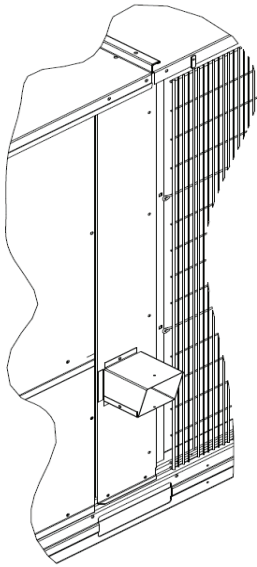

Fig. 1 — Existing Flue Outlet Hood
3. Remove existing flue hood from unit. Save screws. (See Fig. 1.)